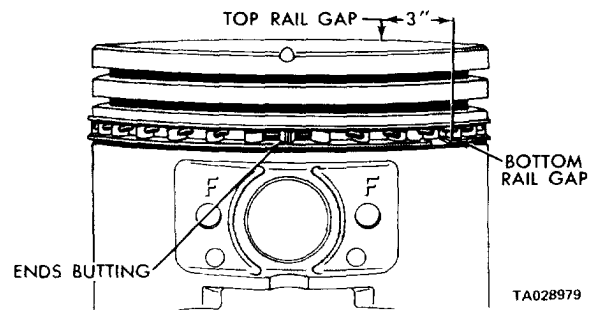

Figure 11-16. Proper Oil Ring Installation.
(4) Insert the keys on the spacer expander into the hole in the oil ring groove (over the piston pin front boss). Install the ring as shown in figure 11-16.
(5) Install the compression rings in the middle and top grooves.